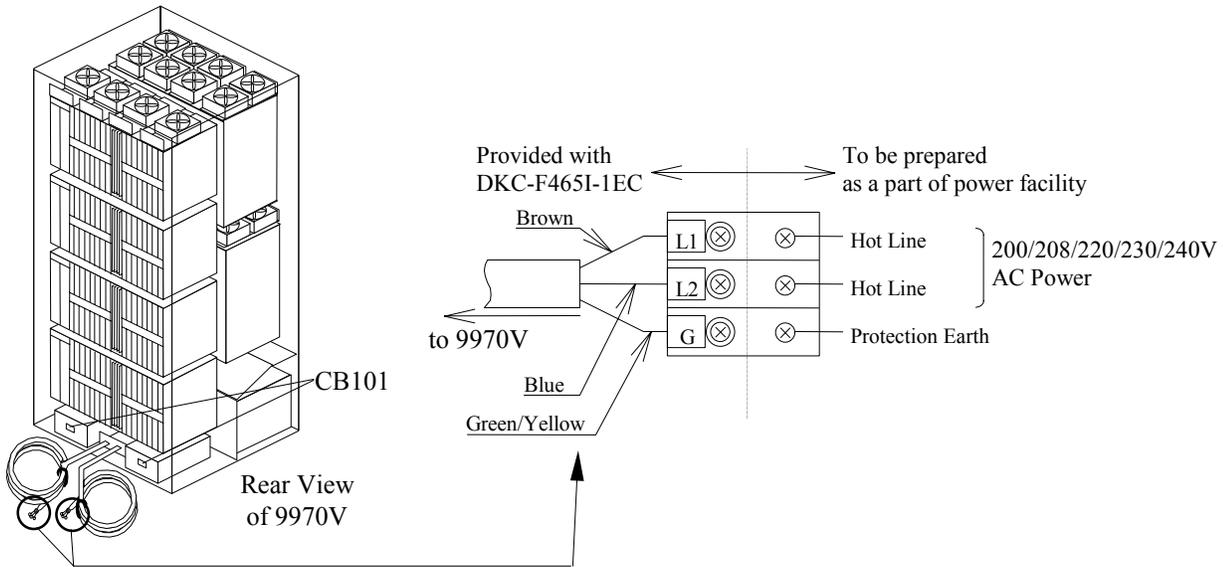

Figure 5.19 Power Plugs for a Single-Phase 9970V Subsystem (Europe)
- Figure 5.19 illustrates the power plugs for a three-phase 9970V subsystem (Europe).